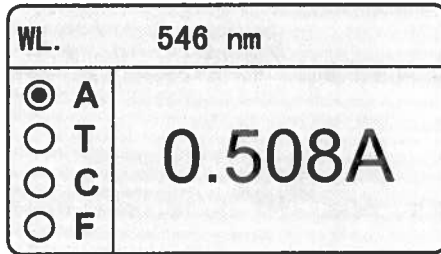

Fig. 4-3
4) Pull the unknown concentration sample In the light path, then record the displayed value (Fig. 4-3).